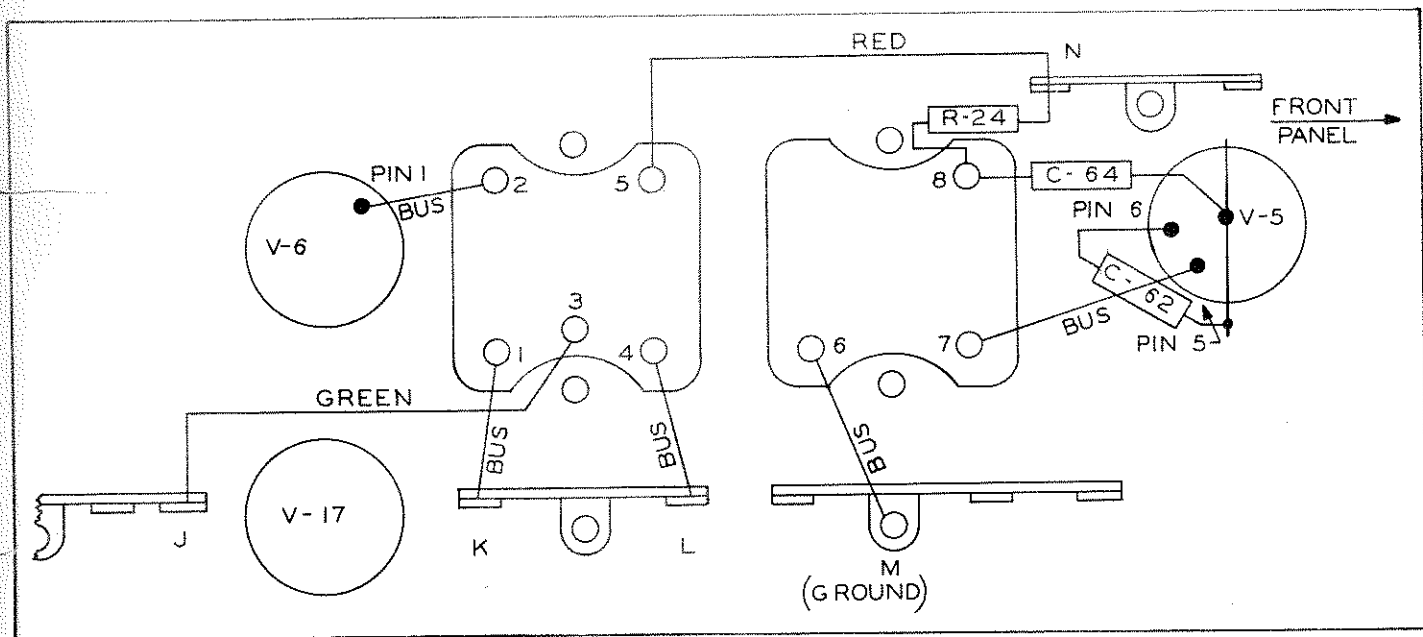

Figure 4. Mechanical Filter Adapter Wiring After Modification
- 30. Refer to figure 4 showing the under-chassis connections after modification.
- 34. Connect and solder a bus-wire jumper from the soldering lug indicated as L in figure 4 to terminal 4 of the subassembly.
- 35. Connect and solder a green insulated jumper from the soldering lug indicated as J in figure 4 to terminal 3 of the subassembly.
- 36. Connect and solder bus-wire jumper (that originally connected between terminal C of T-5 and the soldering lug indicated as K in figure 4) to terminal 1 of the subassembly.
- 38. Connect and solder a red insulated jumper from the soldering lug indicated as N in figure 4 to terminal 5 of the subassembly.